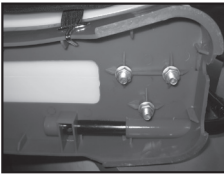

Figure 4
5) Remove the three bolts attaching the piston cylinder to the bottom of the tank (Figure 4).